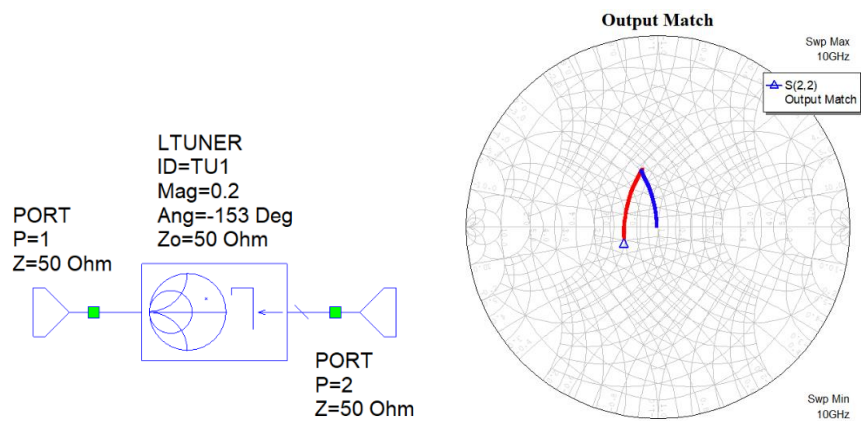

Fig. 10 Design procedure of the output matching circuit.
- It is necessary to design the output matching circuit separately. Again, use the LTUNER for this design. Create a new schematic and place the LTUNER there with values set to $\Gamma_{LZ}^* = 0.2\angle-153^\circ$. The matching procedure of S_{22} to 50 Ω is shown in Fig. 10.